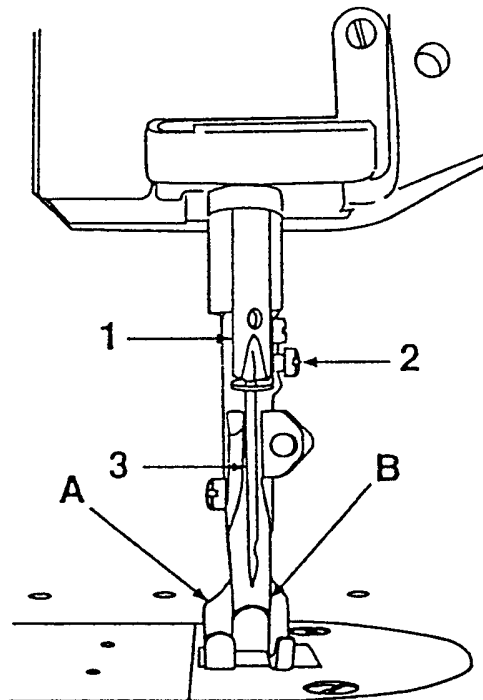

Fig.6
## NEEDLE (Fig.6)
2. When altering the lift of the lifting presser foot (A, Fig.6) unequally against that of the vibrating presser foot (B, Fig.6) or vice versa, see the instructions "ADJUSTING THE HEIGHT OF THE PRESSER FEET".